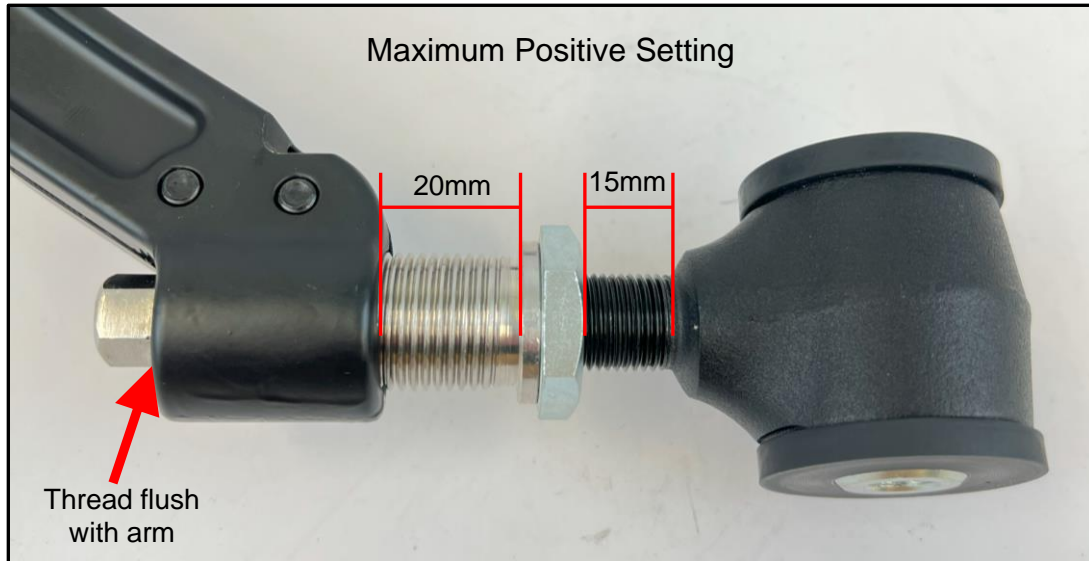

Figure 4
**NOTE:** **DO NOT** thread the Double Adjuster past the point where the last thread is flush with the arm, as shown below. The maximum safe length of exposed threads on the ends is **15mm**. The maximum safe length of exposed threads on the double adjuster is **20mm**. See *Figure 4* below. For **RACE ENDS ONLY**, you can fine tune caster by having one end threaded slightly further in or out than the other.